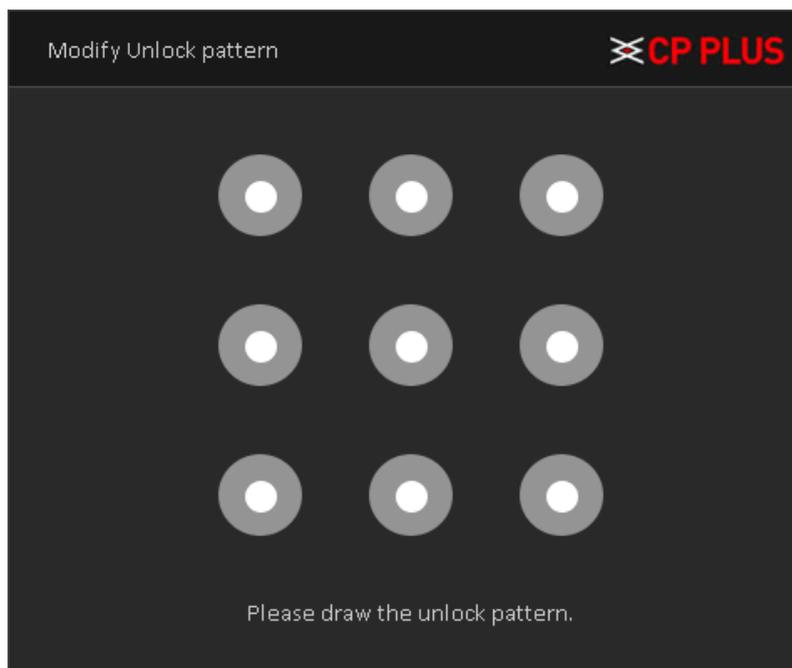

Figure 4.72
- **[Modify Pattern]** user can set or modify pattern to login device, if user skip this configuration at device initialization. See Figure 4.72.